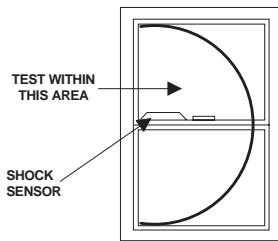

**Figure 16. Sensitivity Adjustment Pot Shown at 12 O’Clock**
3. Set the sensitivity adjustment pot so that the arrow is at the 12 o’clock position as shown in Figure 16..